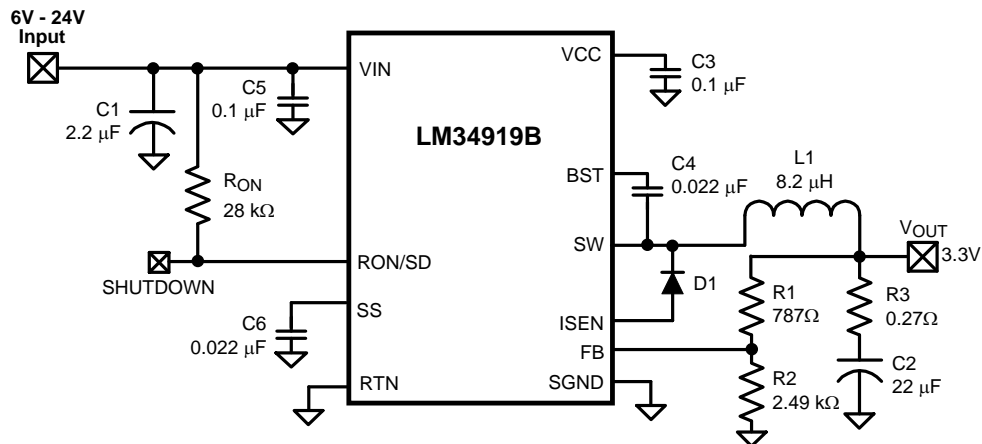
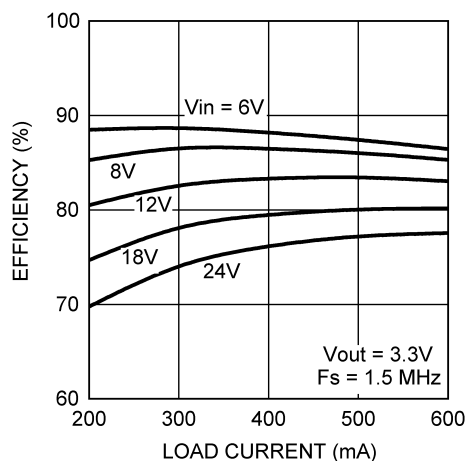
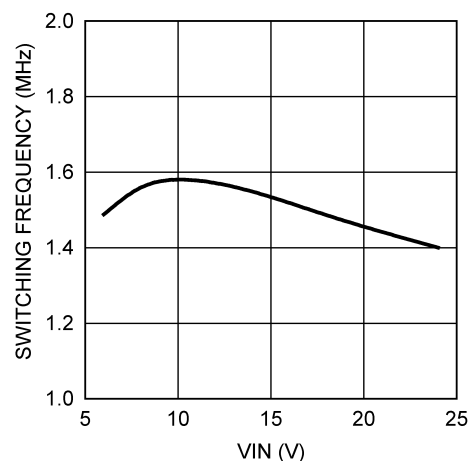
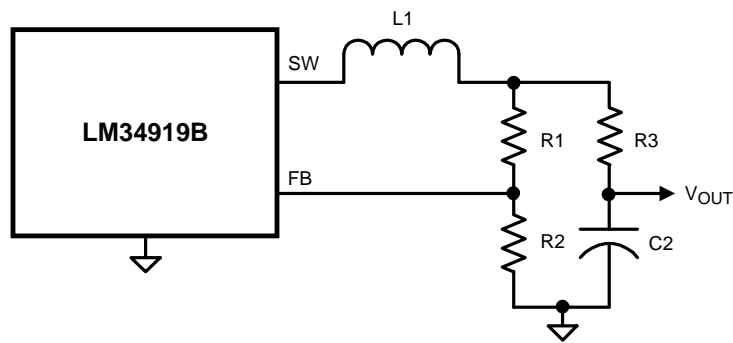

Figure 29. Example Circuit
Figure 30. Efficiency (Circuit of Figure 29)
Figure 31. Frequency vs.  $V_{IN}$  (Circuit of Figure 29)
Figure 34. Alternate Minimum Output Ripple Configuration
The final circuit is shown in Figure 29, and its performance is shown in Figure 30 and Figure 31. Current limit measured approximately 780 mA at 6V, and 812 mA at 24V.
**c) Alternate minimum ripple configuration:** The circuit in Figure 34 is the same as that in Figure 29, except the output voltage is taken from the junction of  $R3$  and  $C2$ . The ripple at  $V_{OUT}$  is determined by the inductor's ripple current and  $C2$ 's characteristics. However,  $R3$  slightly degrades the load regulation. This circuit may be suitable if the load current is fairly constant.